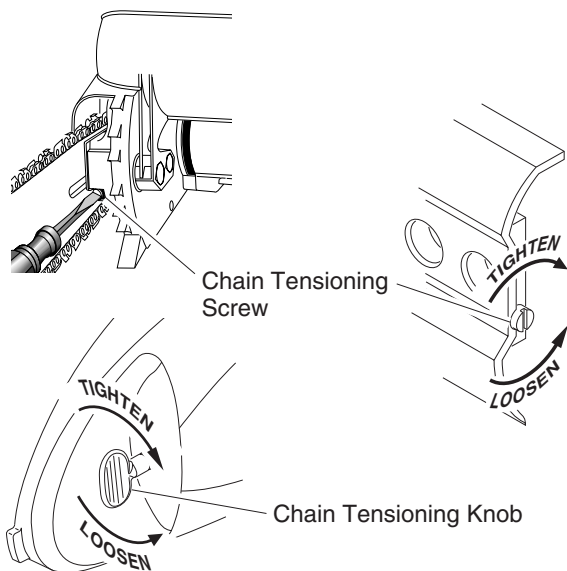

Figure 2 - Chain Tensioning Screw and Chain Tensioning Knob Location
3. Turn chain tensioning screw or chain tensioning knob counter-clockwise to further loosen bar and chain (see Figure 2).
1. Turn chain tensioning screw or chain tensioning knob counter-clockwise until it stops. Do not force past stop (see Figure 2).
7. Turn chain tensioning screw or chain tensioning knob clockwise until the adjustment block engages the adjusting hole in bar (see Figures 2 and 4).